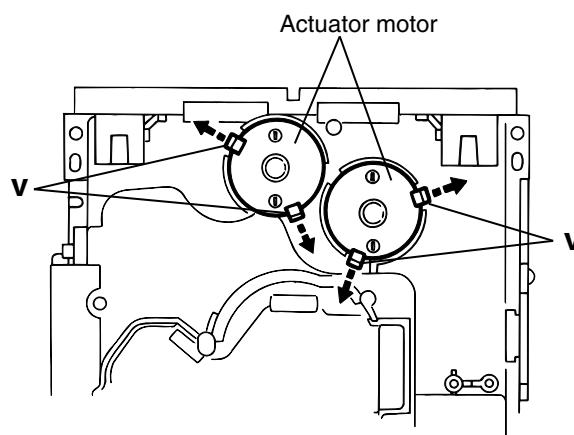

Fig.20
5. After turning over the chassis assembly, remove the actuator motor while spreading the four pawls **"v"** fixing the right and left actuator motors in the arrow direction(See Fig. 20).